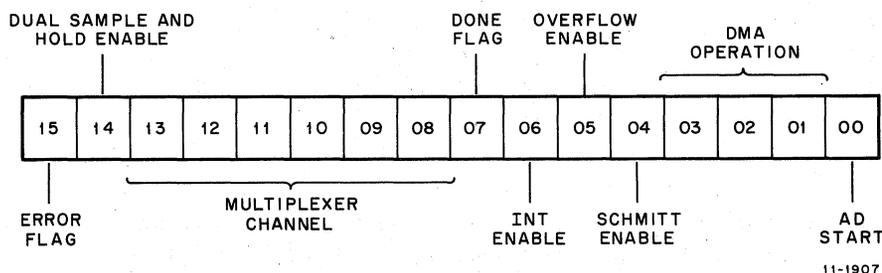

Figure 3-12 A/D Status Register Bit Assignments
**3.2.2.1 A/D Status Register** – The Status register is illustrated in Figure 3-12, and defined in Table 3-6. In addition to the theory of operation detailed in this chapter, additional programming information regarding the Status register and its functions may be found in the *LPS11-S User's Guide*.